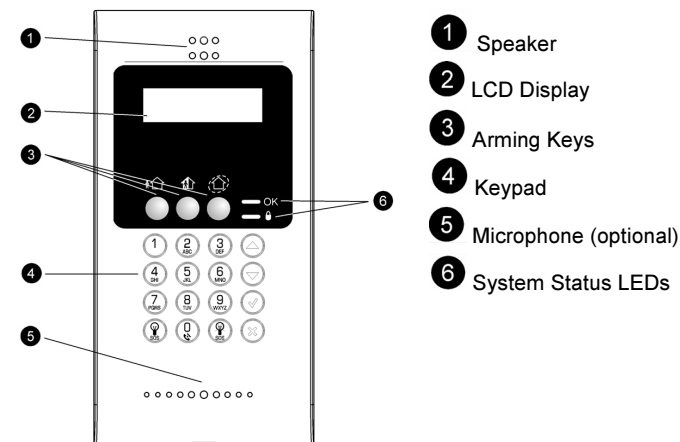

Figure 1: Keypad layout
1. Before mounting the keypad test the keypad communication with the system. To do so, try to arm the system using one of the arming buttons on the wireless keypad (see Figure 1).